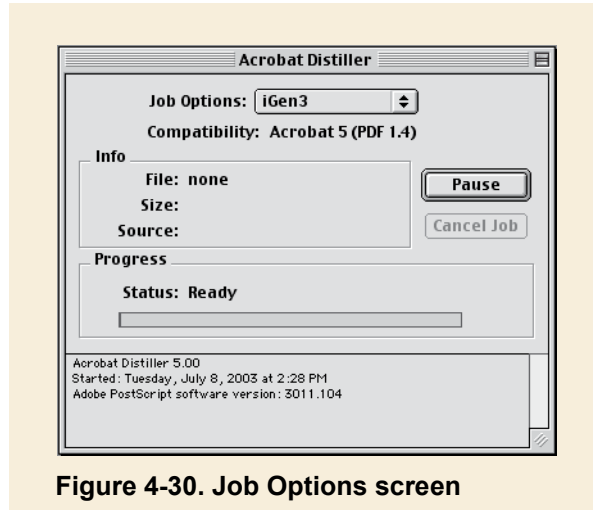

Figure 4-30. Job Options screen
- **Figure 4-30** shows the Job Options saved as iGen3.